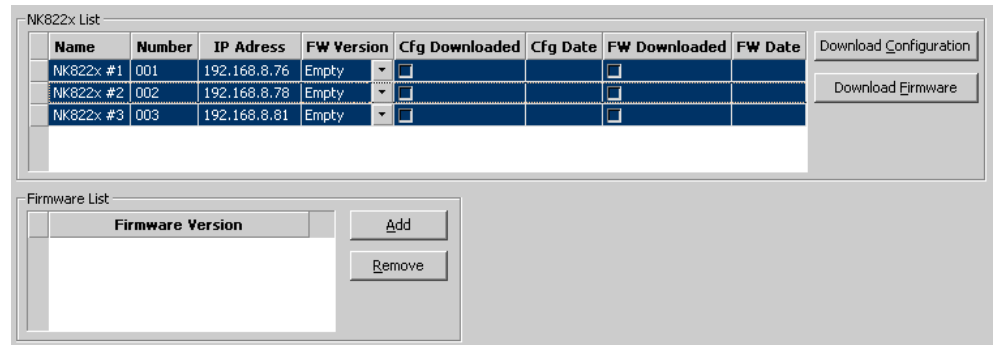

Fig. 9 Selecting the NK82xx
See the following Fig. 9.
- Verify that the **Cfg Downloaded** checkboxes contain **X**'s see Fig. 9 above